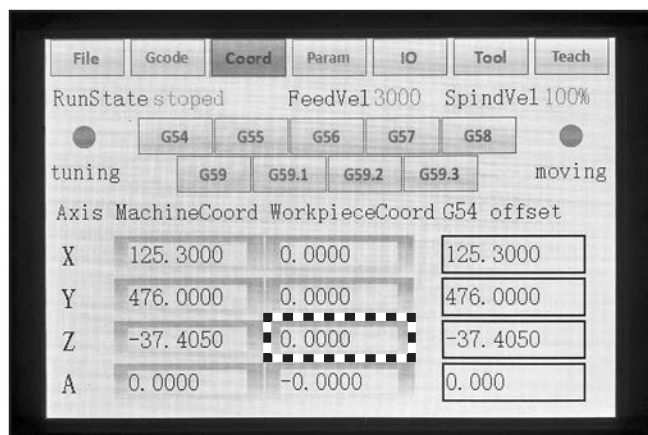

Figure 52. Example of Z-axis origin set in WorkpieceCoord column.
6. Verify Z-axis workpiece coordinates have been zeroed in the coordinate screen (see **Figure 52**).